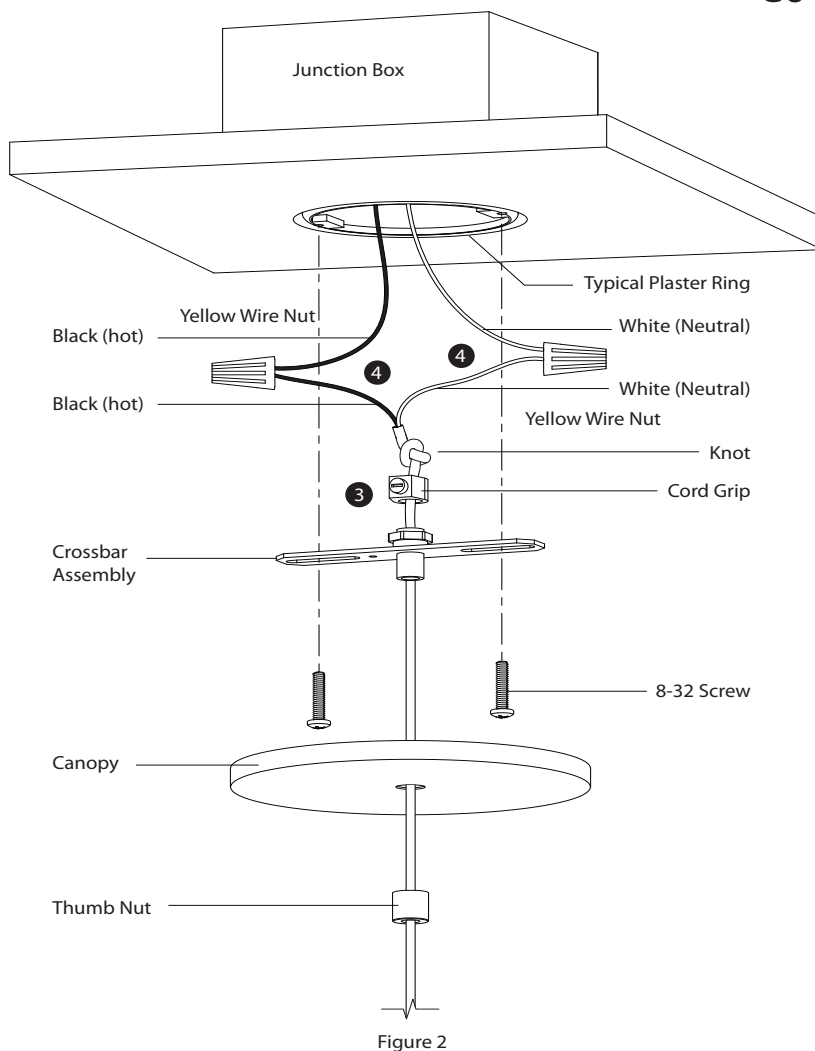

Figure 2
- 4 Make electrical connections as shown in figure 2 using the supplied wire nuts.